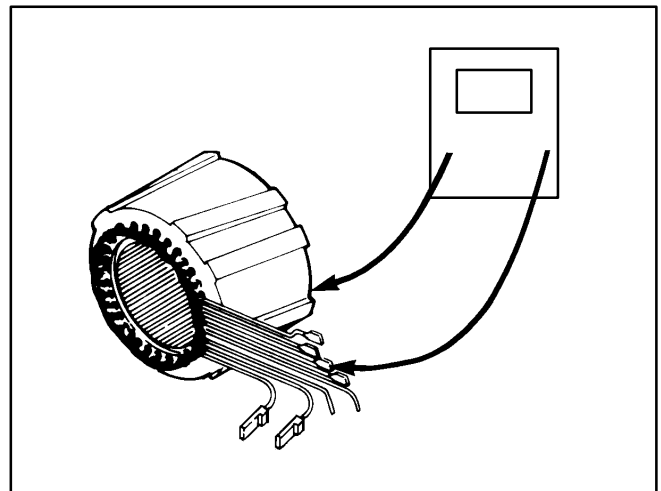

FIGURE 75. STATOR INSULATION RESISTANCE
**Testing for a Grounded Winding:** A digital ohmmeter is recommended for this test. Select the highest scale on the meter. Test each lead as shown in Figure 75. Replace the stator assembly if any reading is low indicating a breakdown in the winding insulation.